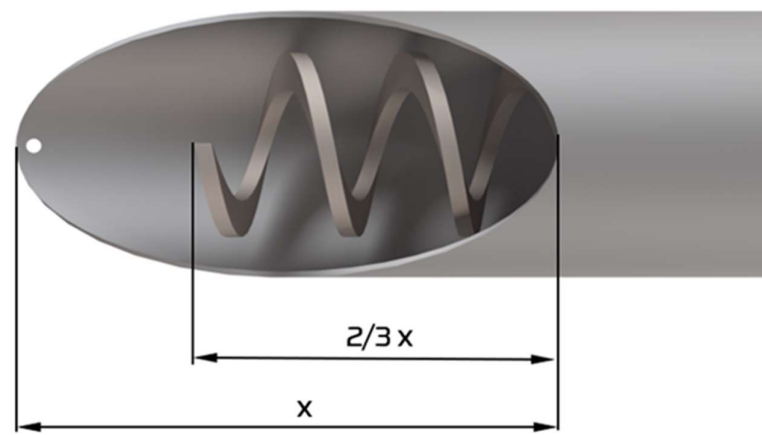

Fig. 6. Feeder spiral installation.
1. Connect the three pipes (1), (2) and 3) using connectors (7) and tighten the fixing screws.
2. Place the mandrel (8) in the shaft hole (9), then screw the spiral (4) onto the mandrel (8) and tighten with the M12 nut with a washer (10);
3. Place the keyway (15) in the groove of the shaft (9). Slide the shaft into the hole in the gearbox (6), and then tighten the M8 bolt with washers (14) to the repositioned shaft;
4. Slide the spiral into the pipe. Use M8x80 bolts (11) and M8 nuts with washers (12) to screw the gears (6) to the pipe flange.
**NOTE: The end of the feeder spiral should be in 2/3 of the length inlet opening (Fig. 6). If the spiral is too long, cut it to the required length.**